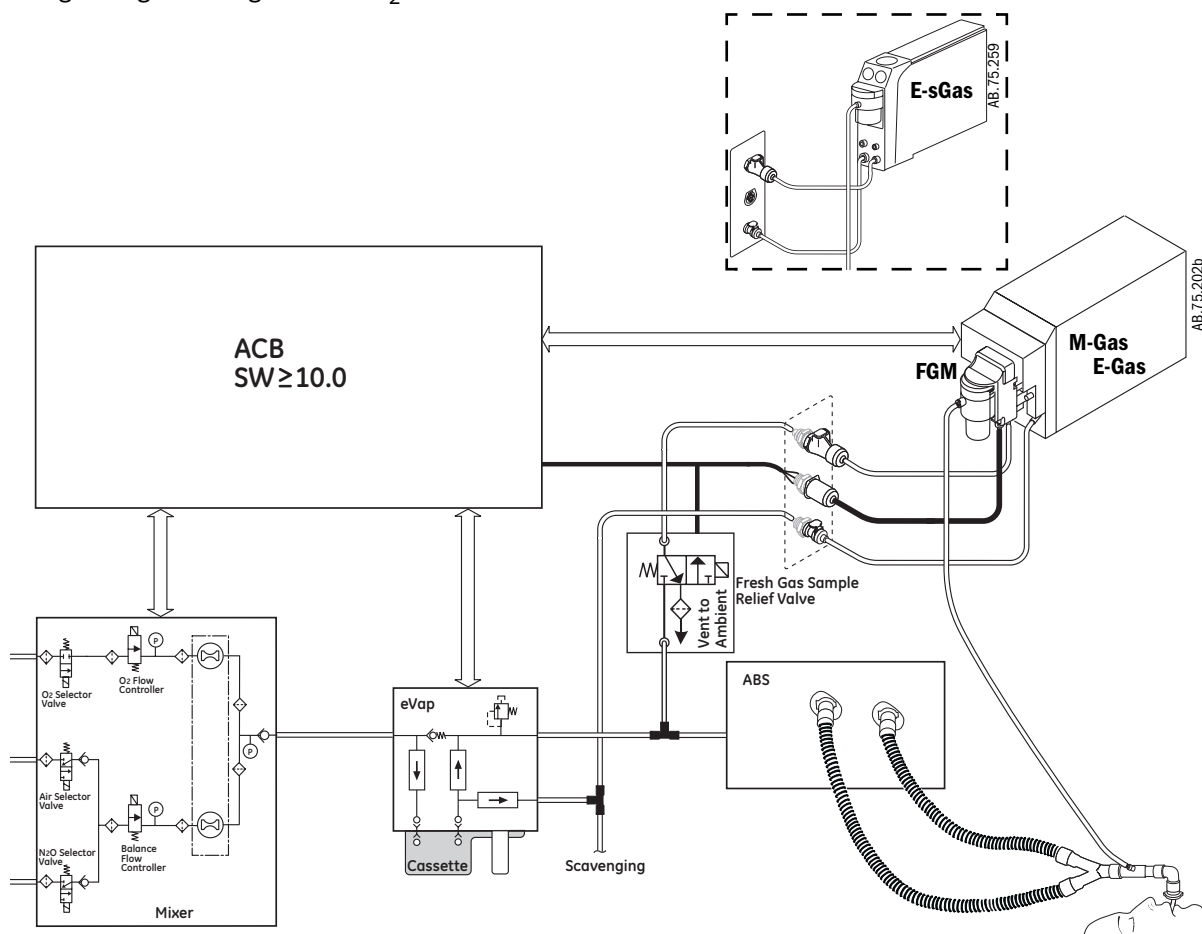

Figure 2-30 ▪ Et Control
- The purpose of the Fresh Gas Sample Relief Valve, shown in Figure 2-30, is to ensure that during the module zeroing phase, no mixed gas or agent is detected by the E-sGas Module, possibly creating an inaccurate zero or reading. The valve is normally closed, which prevents any fresh gas from flowing to the Fresh Gas Module Sample port connection on the bezel. The valve is energized when the Module is performing the Fresh Gas Sample check associated with the Et Control option.